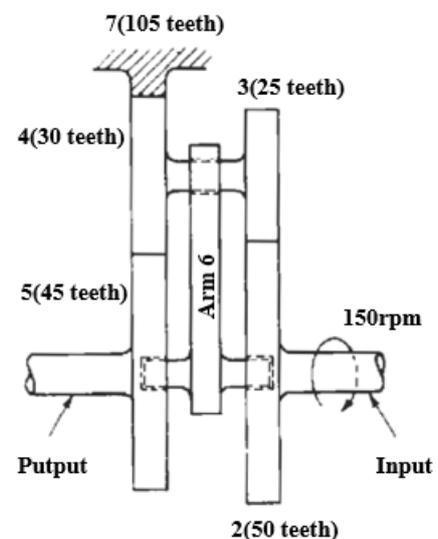

Fig. 4. A planetary gear train
6. For the planetary gear train shown in Fig. 4, gear 2 rotates at 600rpm in the clockwise direction. Calculate the output speed and direction of rotation of gear 5. (15%)